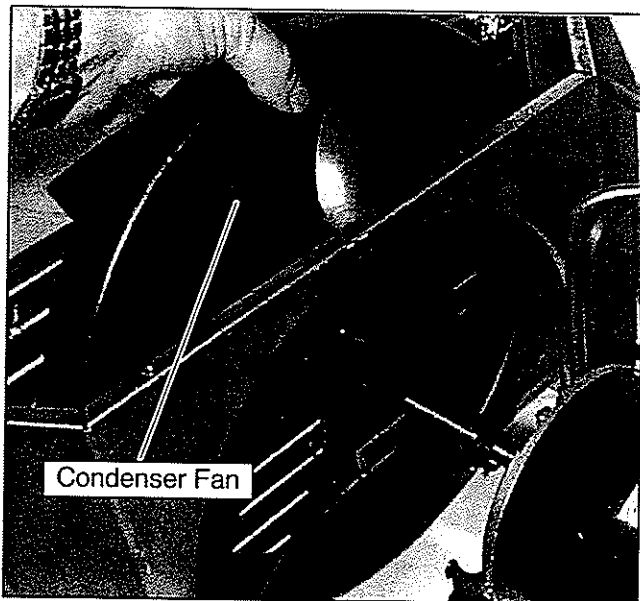

Figure 3-22 Condenser Fan Removal
- h. Remove condenser fan from motor shaft and lift fan out through the top of the condenser orifice. (See Figure 3-22)